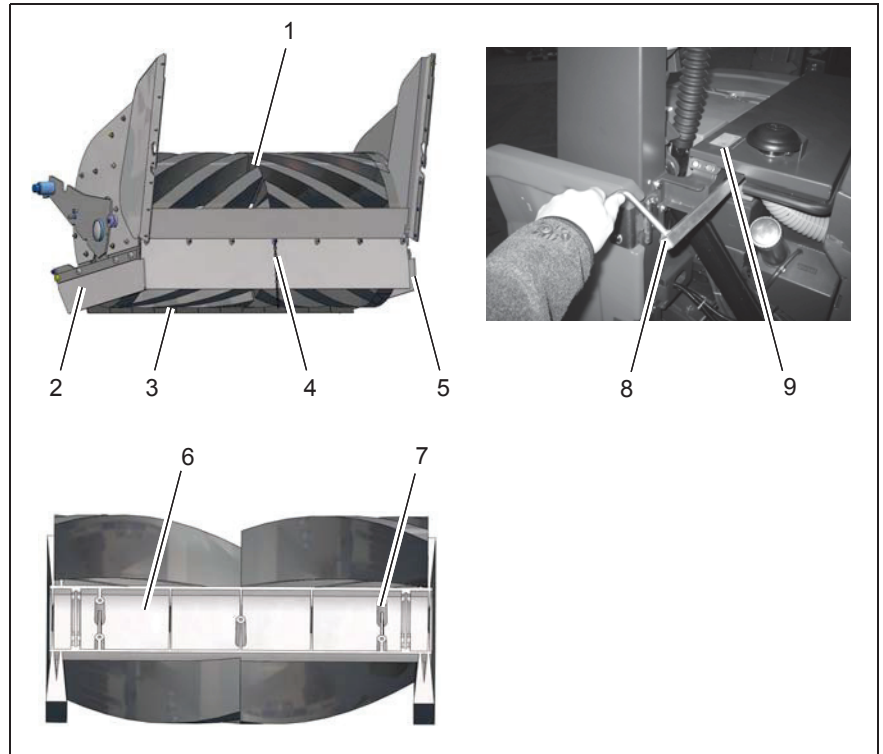

Fig.30
Check the rotary brush (Fig. 30/1) every week for signs of wear. In the event of wear or after the rotary brush has been changed, proceed as follows to complete the necessary adjustments:
5. Fit the crank (Fig. 30/8) on the square and adjust the sweeping pattern.
- Counterclockwise: larger sweeping patternThe value is indicated on the scale (Fig. 30/9).
4. Turn the rotary brush by hand until the five screw connections (Fig. 30/7) are visible.
5. Loosen the screw connections and remove the rotary brush half (Fig. 30/6).
4. The side sealing strips (Fig. 30/2) and (Fig. 30/5) can be adjusted via the slots. The sealing strips must make contact with the floor.
5. The front sealing strip (Fig. 30/3) can be adjusted using an actuating rod. The sealing strip must make contact with the floor and bend slightly to the rear.
6. The rear sealing strip (Fig. 30/4) can be adjusted via the slots. The sealing strip must have a clearance of approx. 5 mm to the floor.